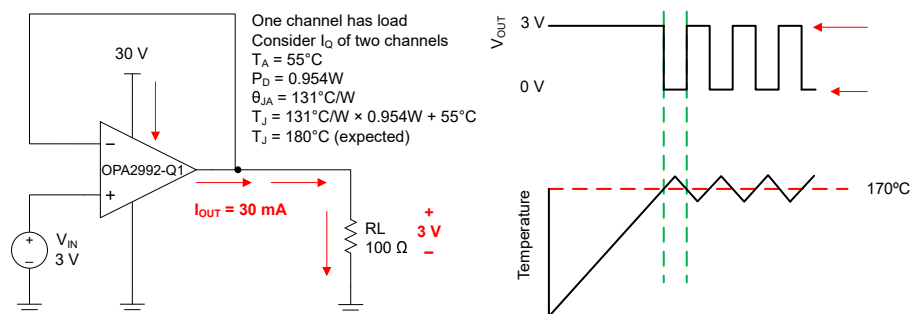

Figure 6-4. Thermal Protection
The internal power dissipation of any amplifier causes the internal (junction) temperature to rise. This phenomenon is called *self heating*. The absolute maximum junction temperature of the OPAx992-Q1 is 150°C. Exceeding this temperature causes damage to the device. The OPAx992-Q1 has a thermal protection feature that reduces damage from self heating. The protection works by monitoring the temperature of the device and turning off the op amp output drive for temperatures above 170°C. Figure 6-4 shows an application example for the OPA2992-Q1 that has significant self heating because of the power dissipation (0.954W). In this example, both channels have a quiescent power dissipation while one of the channels has a significant load. Thermal calculations indicate that for an ambient temperature of 55°C, the device junction temperature reaches 180°C. The actual device, however, turns off the output drive to recover towards a safe junction temperature. Figure 6-4 shows how the circuit behaves during thermal protection. During normal operation, the device acts as a buffer so the output is 3V. When self heating causes the device junction temperature to increase above the internal limit, the thermal protection forces the output to a high-impedance state and the output is pulled to ground through resistor  $R_L$ . If the condition that caused excessive power dissipation is not removed, then the amplifier oscillates between a shutdown and enabled state until the output fault is corrected. Please note that thermal performance can vary greatly depending on the package selected and the PCB layout design. This example uses the thermal performance of the SOIC (8) package.